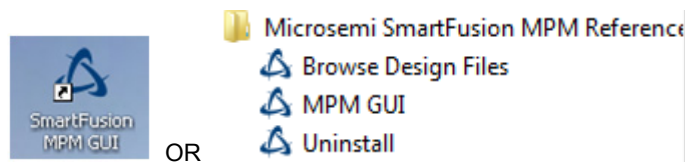

Figure 3 · Launching the MPM GUI
2. From the desktop, double-click the SmartFusion MPM GUI icon or launch from **Start > Programs > Microsemi SmartFusion MPM Reference Design v5.0 > MPM GUI** (Figure 3). It may have already auto launched if you just completed the install.